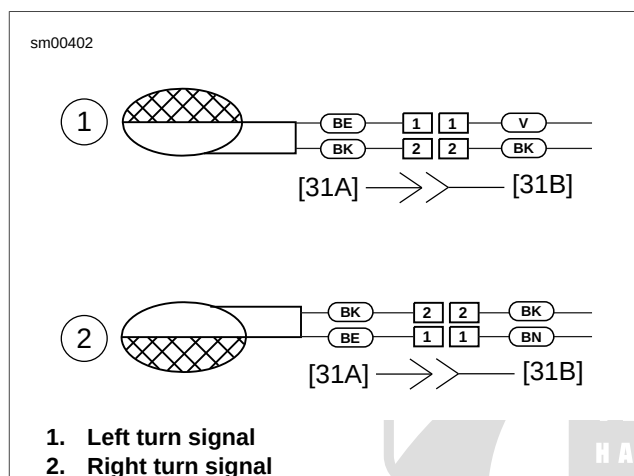
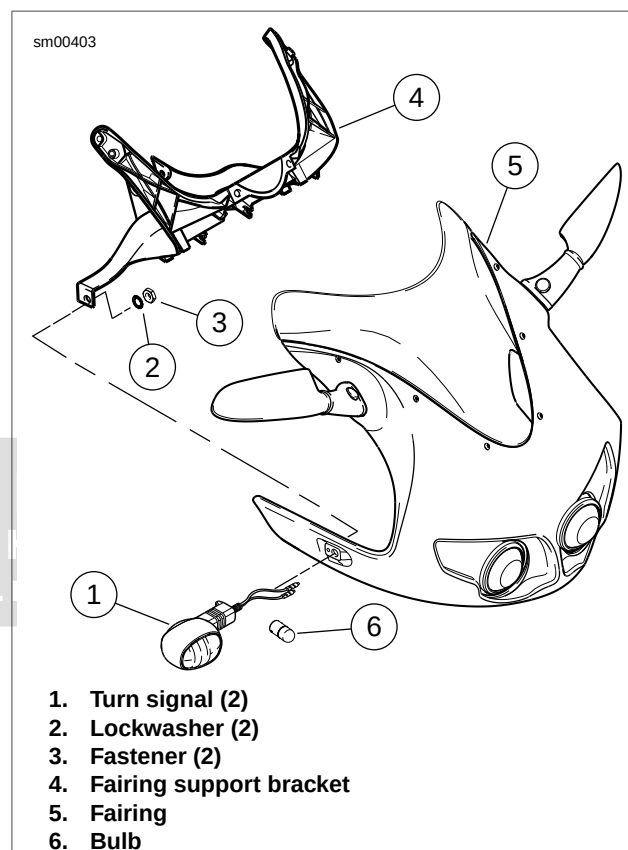

Figure 7-45. Front Turn Signal Connections
Figure 7-46. Front Turn Signals: Firebolt
2. See Figure 7-46. Remove fastener (3) and lockwasher (2) from fairing support bracket (4).
3. Pull bullet connectors and wiring through hole in fairing support bracket (4) and fairing (5).
1. See Figure 7-46. Insert bullet connectors and wiring through hole in fairing (5) and fairing support bracket (4).
2. Install turn signal (1) using lockwasher (2) and fastener (3). Tighten fastener to 25-28 **in-lbs** (2.8-3.2 Nm).
3. Attach bullet connectors on turn signal wires as shown in Figure 7-45.
2. See Figure 7-45. Disconnect bullet connectors on turn signal wires.